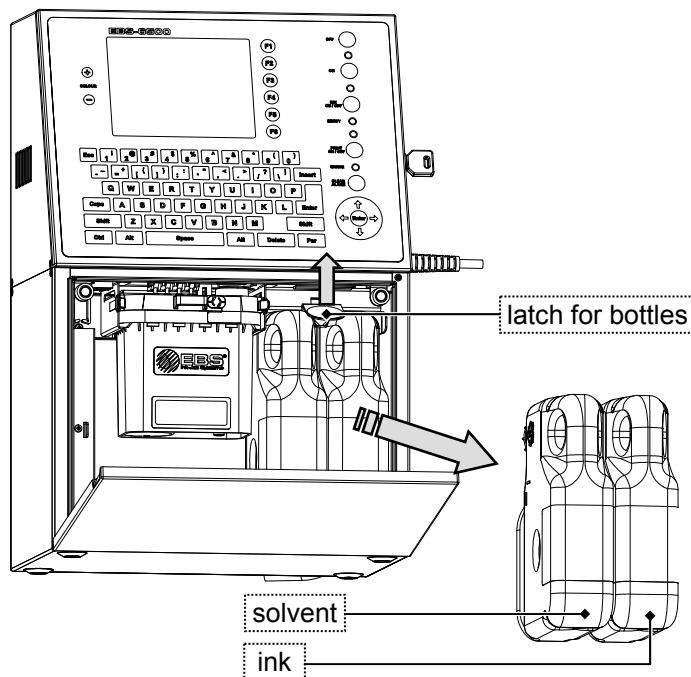

Fig. 6.1.1.1
1. Lift the latch for bottles (see Fig. 6.1.1.1) and remove the empty bottle from which ink (or solvent) has been taken so far; the following message can appear on the terminal: